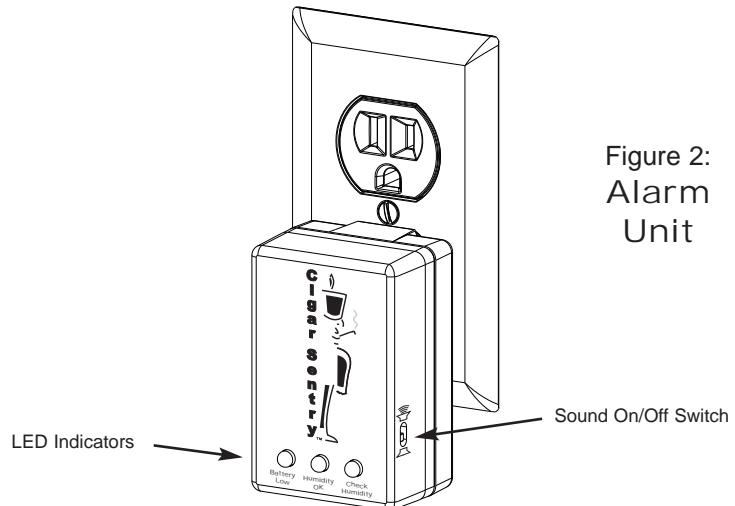

Figure 2:
2. Plug the alarm unit (Fig. 2) into a wall outlet within 50 feet of the cigar storage container (maximum distance may vary). The green LED should illuminate.